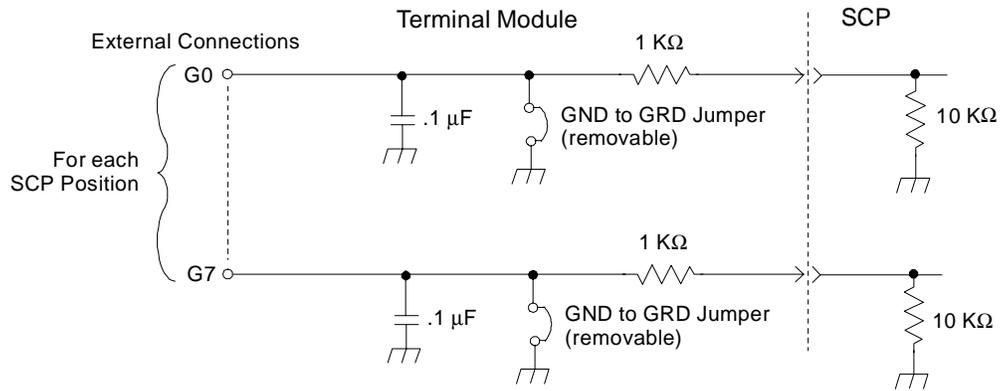

Figure 2-9. GRD/GND Circuitry on Terminal Module
2. Connect the shield of each wiring pair to the corresponding Guard (G) terminal on the terminal module (see Figure 2-9 for schematic of Guard to Ground circuitry on the terminal module).